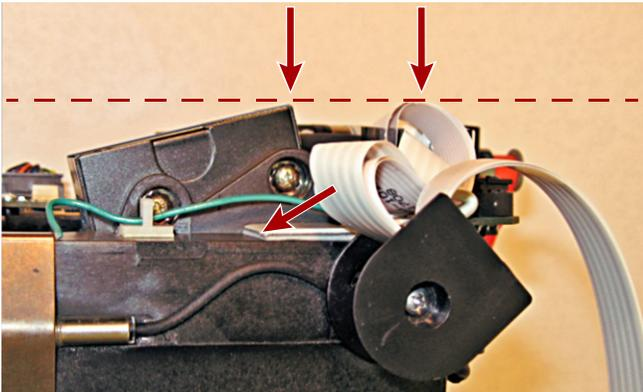

Figure 14. Flex Cable Must NOT Extend Beyond Reader
5. Pull gently on the cables between the clamp and the spooler until the **cable loops** are flush with the bar code reader (Figure 14).
1. Visually examine and manually move the shuttle assembly to verify that the **cables** do not catch on anything and that the assembly moves freely. The cables at the shuttle should not extend past the edge of the bar code reader (Figure 14).